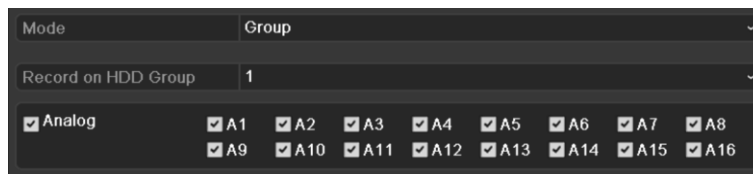

Figure 10-11 Storage Mode Interface
Step 2 Set the **Mode** to Group, as shown in Figure 10-11.